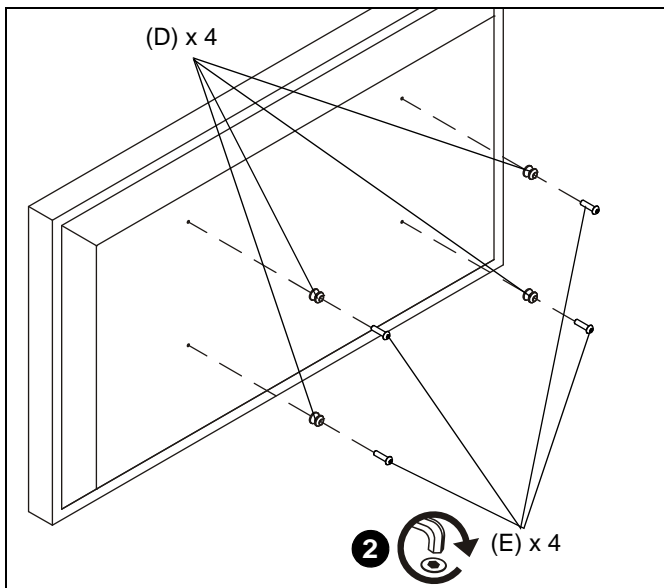

Figure 4
2. Install four mounting buttons (D) onto display using four M8 x 35mm button head screws (E). (See Figure 4)